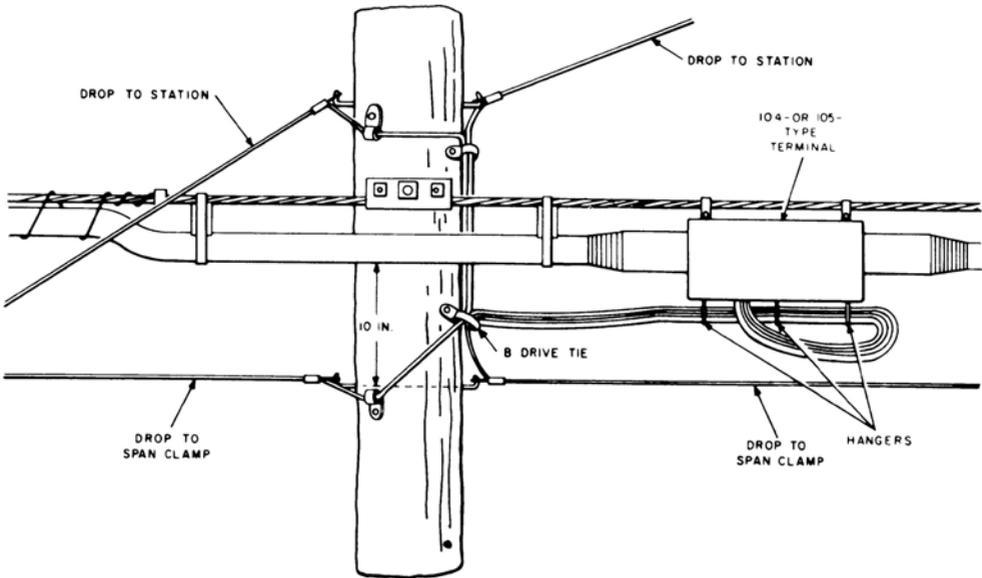

Fig. 6—Running Drop Wires to 104- or 105-Type Terminal at Pole
3.10 Refer to Fig. 6, 7, and 8 for typical arrangements of drop wires at 104- or 105-type cable terminals on aerial cable.